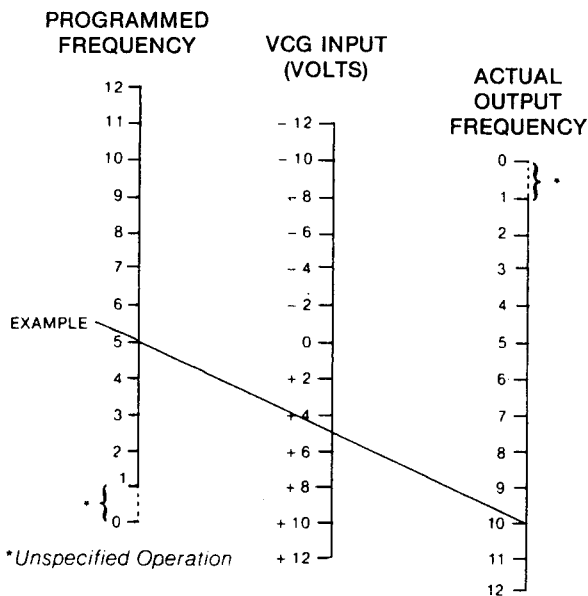

Figure 3-6. VCG (FM) Nomograph
The frequency of the main (non-arbitrary) waveform generator may be controlled by an ac or dc signal applied to the VCG IN BNC connector. A positive control voltage will increase the generator frequency; a negative voltage will decrease frequency. Frequency may be changed by the VCG control voltage only within a frequency range. Table 3-3, Internally Selected Frequency Ranges, shows the frequency ranges and corresponding VCG ranges. Figure 3-6, VCG (FM) Nomograph, illustrates the VCG voltage required to change the programmed frequency to the desired output frequency. (Frequencies in this figure are shown as significant digits, without the range multiplier.) Frequency range must be selected before applying the VCG signal.
For example, Table 3-3 shows that if the frequency is programmed to 500 Hz, the Wavetek 275 selects the 10^2 range. As shown in the example of Figure 3-6, a programmed frequency of 500 Hz and a +5V VCG input will produce an actual output frequency of 1 kHz.